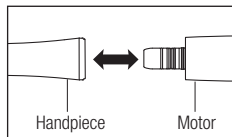

Fig. 1
- 1) Insert the handpiece directly into the motor (Fig. 1).
Hold the motor and the handpiece, then pull apart. (Fig. 1)